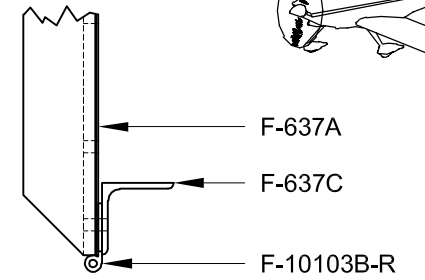

FIGURE 2: SEAT BACK ASSEMBLY ALIGNMENT
Step 5: Make the Right Seat Back Assembly by aligning the bottom edge of one of the F-637A Seat Backs with the F-10103B-R Right Upper Seat Hinge Half and one of the remaining the F-637C Angles. See Figures 2 and 3.